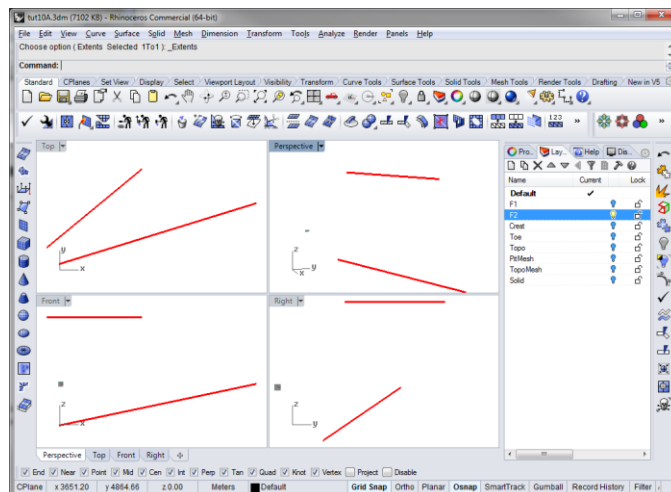

Figure 160: Fault F2 lines.
3. Turn off F1 and turn F2 on (Figure 160).